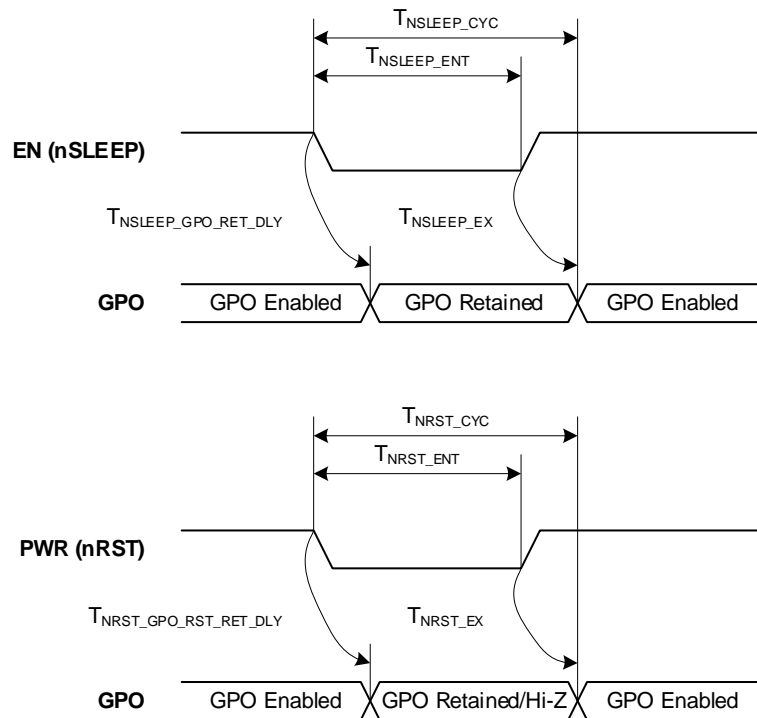

Figure 35. Device On/Off State Cycle Timing Diagram (PWR/EN Pin)
Figure 35 depicts general behavior during nRST (PWR) and nSLEEP (EN) assertion.